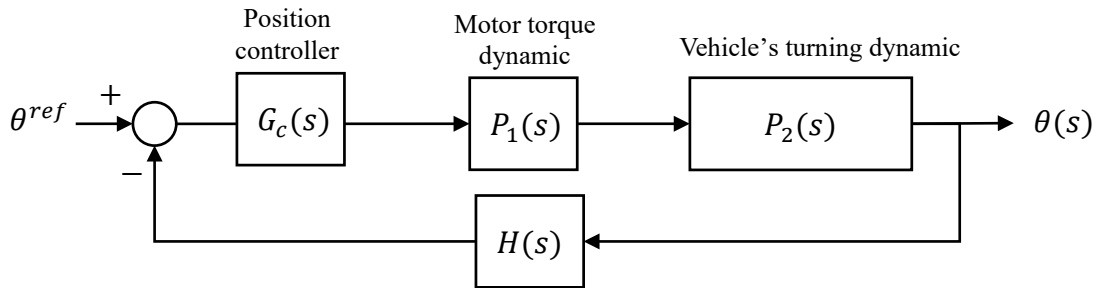

Figure P6
As the control engineer in Xiaomi's electric vehicle (EV) company, you are assigned tasks to analyze and propose a control solution to the upcoming new model YU7's drive-by-wire technology. The front and rear wheels are powered by two closed-loop controlled interior permanent magnet motors. The design task focuses on the new vehicle's turning dynamics. The overall vehicle's turning speed dynamics (simplified version) is depicted graphically in Figure P6. $\theta^{ref}(s)$ is the angular position reference input, and $\theta(s)$ is the actual angular position. You are expected to justify, in the form of textual description, **every relevant design step** to reach the final answer, using the control system understanding from the module (especially the system modelling and control part), mathematical derivation, simulation result, or any other means deemed appropriate.